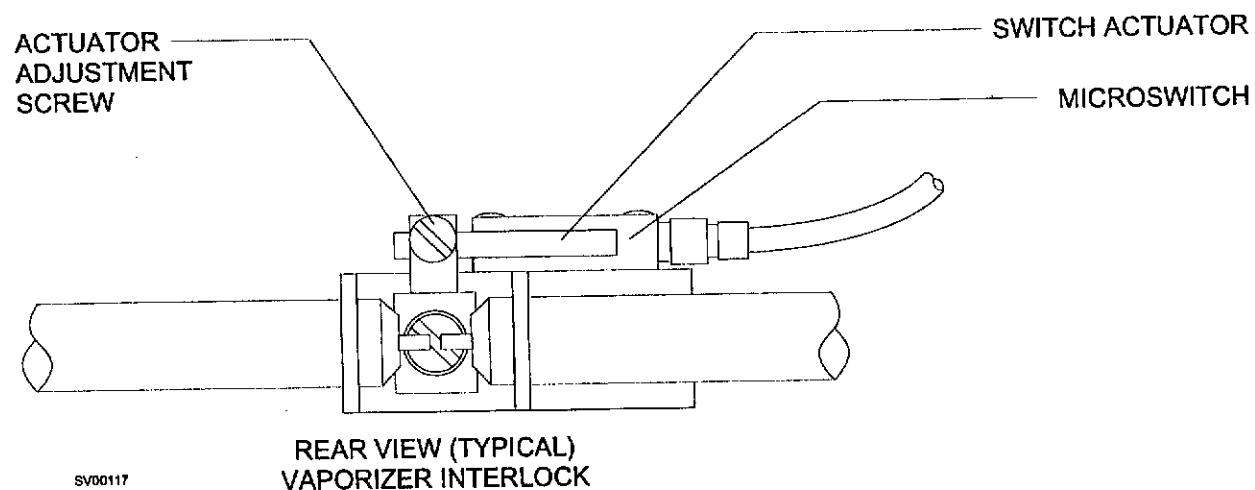

Figure 5-7: VAPORIZER SELECT SWITCH ADJUSTMENT
- 5.7.3 Turn the nylon actuator adjustment screw (see Figure 5-7) counter-clockwise several turns, or until it is no longer pushing the microswitch actuator.